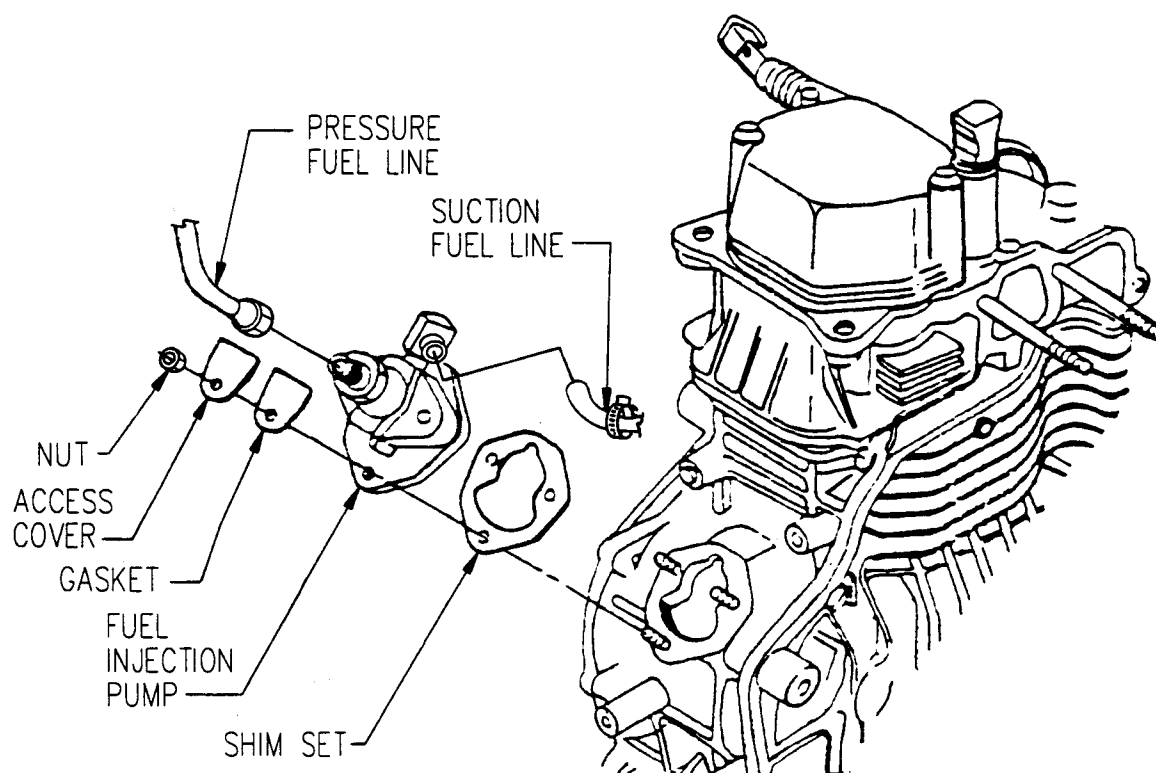

Figure 5-11. Fuel Injection Pump Removal
- (1) Shut down generator set.
- (2) Close fuel shutoff valve at fuel filter assembly.
- (3) Loosen hose clamp and disconnect suction fuel line from fuel injection pump (Figure 5-11).
- (4) Disconnect pressure fuel line from fuel injection pump and from fuel injector. Move line aside.
- (5) Remove nuts and pull fuel injection pump straight out of engine.
- (6) Remove and retain shim set from engine.
- (1) Position shim set (Figure 5-11) on engine.
- 2 Add shims (Figure 5-11) if timing angle is more than 17° , or remove shims if timing angle is less than 17° . Each 0.0039 in. (0.1 mm) shim changes timing by 1° .